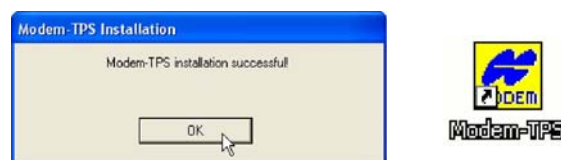

Figure 2-3. Installation Complete and Shortcut
3. Click OK to complete the installation (Figure 2-3).
4. Optionally, create a shortcut on the computer's desktop for quick access to **Modem-TPS** (Figure 2-3)